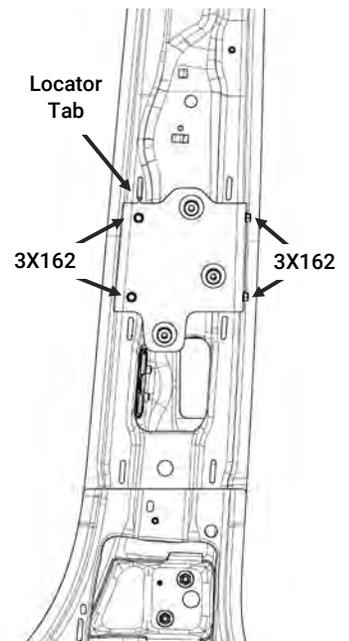

Figure 1
- Place the Passenger B-pillar Bracket [3PAK572110] against the vehicle B-pillar with the locator tab in the bottom of the slot indicated in Figure 1. Ensure that the seatbelt is underneath the bracket.
- Secure the B-pillar bracket in place with a 3/8" socket and (4) self drilling screws [3X162]. The holes can be pre-drilled with a 3/16" drill bit if necessary.
- Repeat on the driver side using the Driver B-pillar Bracket [3PAK572111] and the remaining (4) self drilling screws [3X162].